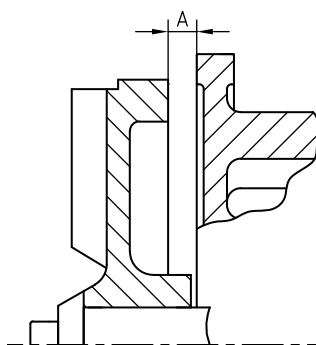

Figure 18: Adjusting the impeller FREM.
- 2 Adjust the impeller to size **A** between the rear of the impeller and the intermediate cover. See figure 18 and Table 7 below. Preferably use 2 calibrated rulers.